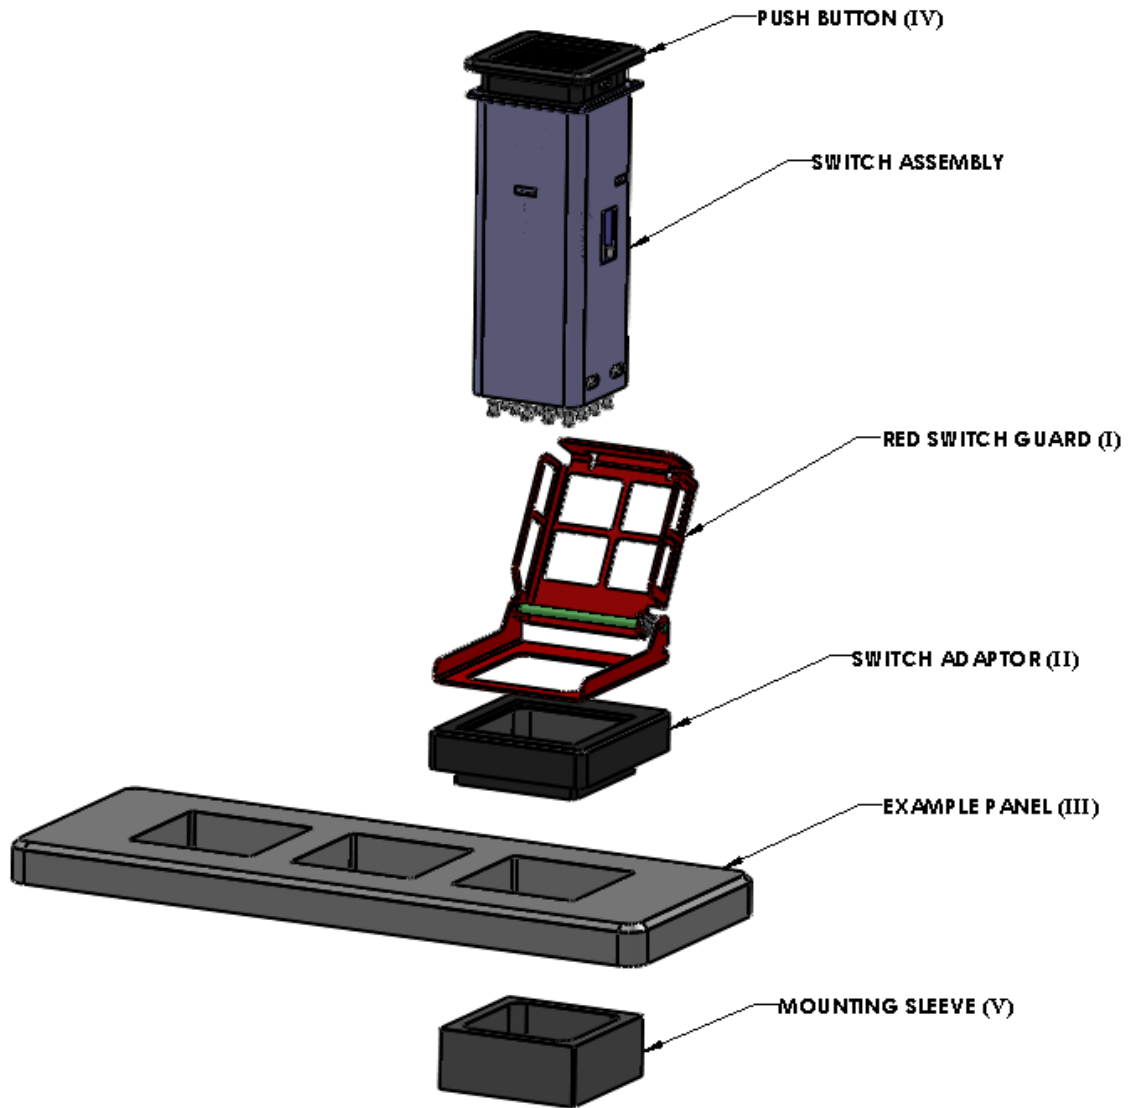

FIGURE 1 – EXPLODED VIEW FOR -001
1. INSTALL PUSHBUTTON GUARD (I) ONTO SWITCH ASSEMBLY (FIGURE 1).
2. INSTALL SWITCH ADAPTOR (II) ONTO PUSHBUTTON GUARD (I) AND SWITCH ASSEMBLY (FIGURE 1).
3. INSTALL GUARD, ADAPTOR AND SWITCH INTO PANEL (III) (FIGURE 1).
5. AFTER INSTALLED INTO PANEL, ADD MOUNTING SLEEVE (V) ONTO BACK SIDE OF PANEL AROUND SWITCH BODY. (SEE FIGURE 1)